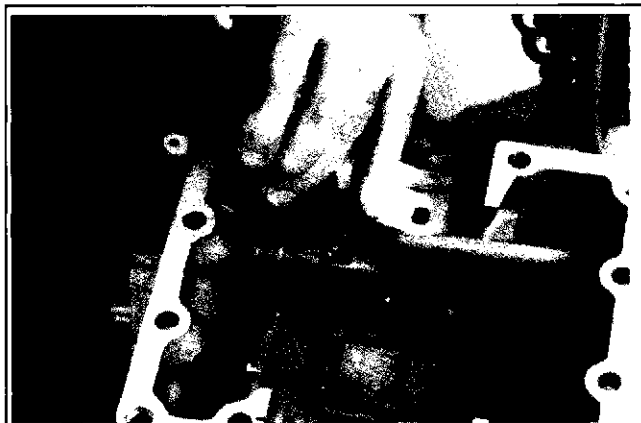

Figure 9-51. Removing Relief Valve Retaining Pin.
2. Use a small punch to drive out the relief valve retaining pin. See Figure 9-51.